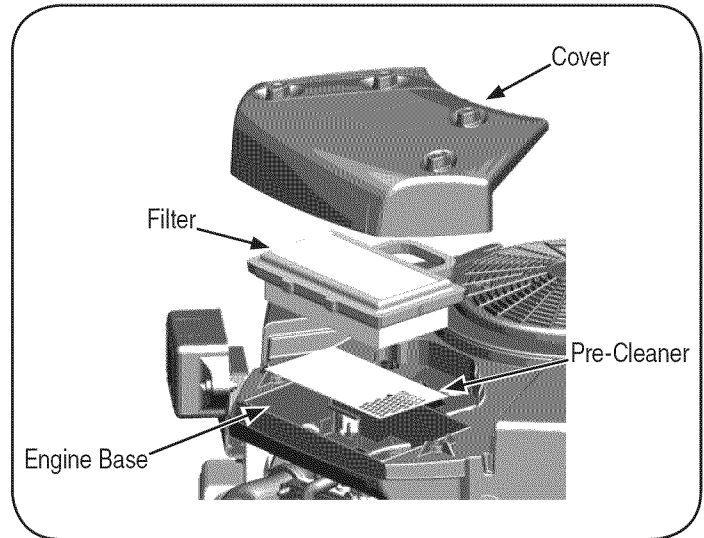

Figure 21
2. To remove the air filter, lift the end of the filter. See Figure 21.